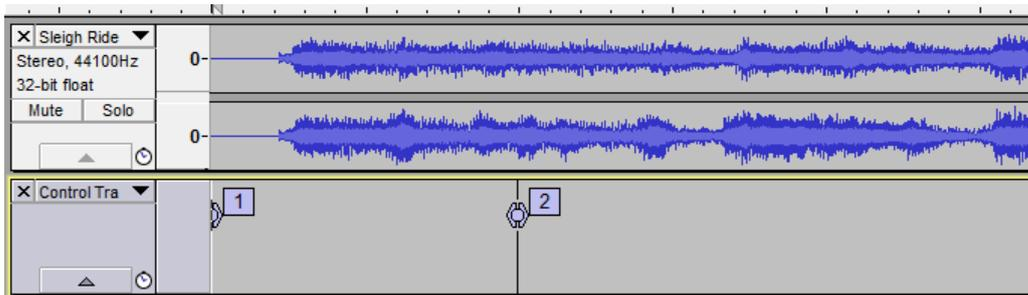

Figure 2-10, Expanded View of Tracks
- 10) Use the main program zoom controls to expand the view of the audio and label tracks, as shown in figure 2-10